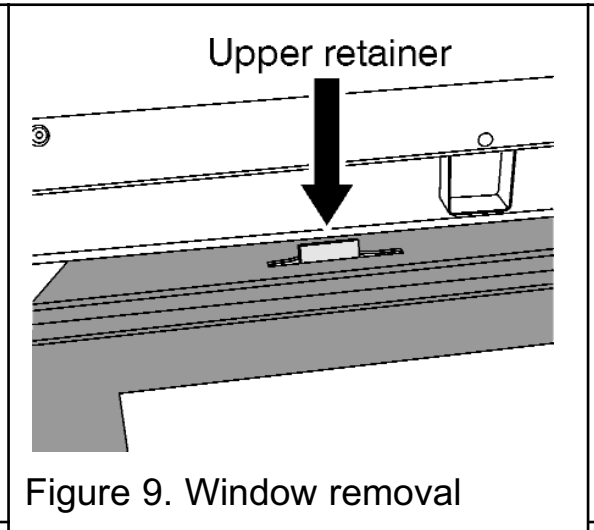

Figure 9. Window removal
3. With both clamps released, gently pull the base of the window panel forward. Hold the window panel base and lift upward until clear of the two upper window retainers (See figure 9).